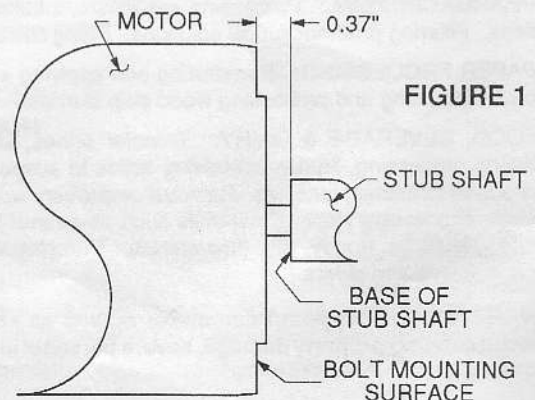

FIGURE 1
1. Liberally apply Loctite RC/680 retaining compound to the motor shaft and slide the stub shaft on, positioning the base of the stub shaft 0.37" from the bolt mounting surface of motor. For clarification refer to Figure 1 below. Loctite aids in preventing fretting and subsequent shaft failure. Apply Loctite to the four set screws and torque to 85-90 in. lbs. Wipe off excess Loctite.